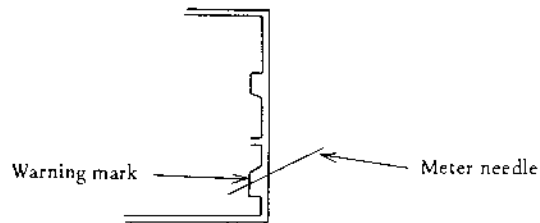

Fig. 26
- 2) At 1/4sec, ASA100, the needle of Meter Unit (18-0455) should be in the lower Warning Mark. See Fig. 26.